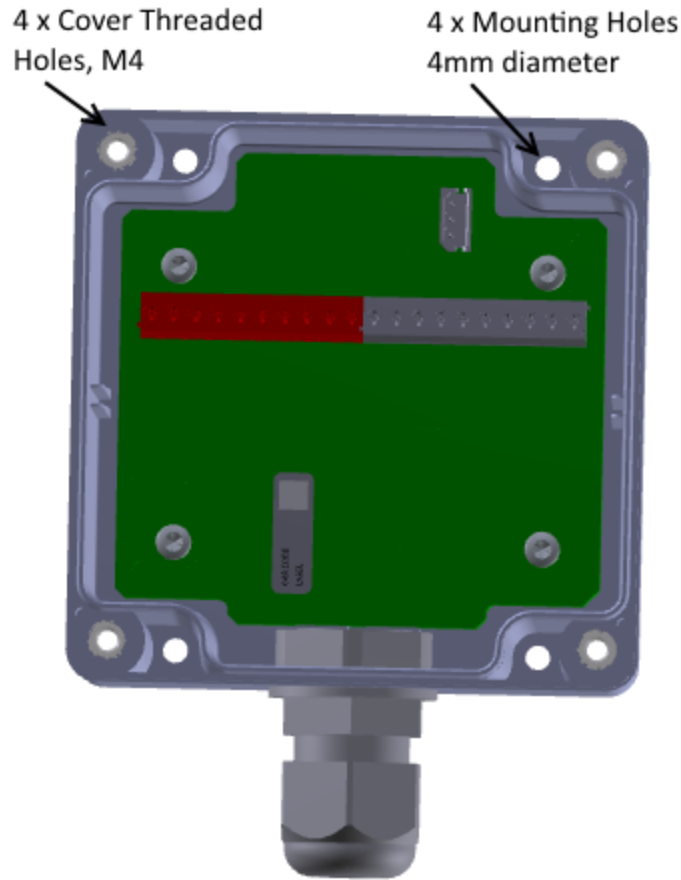

Figure 2-1: Mounting Holes and Threaded Cover Holes
When the cover is removed, four (4) mounting holes are exposed See Figure 2-1. These mounting holes can be used to screw the enclosure to a solid surface. The recommended mounting screw size is M3 or #6. Mounting screws are not provided with the sensor.